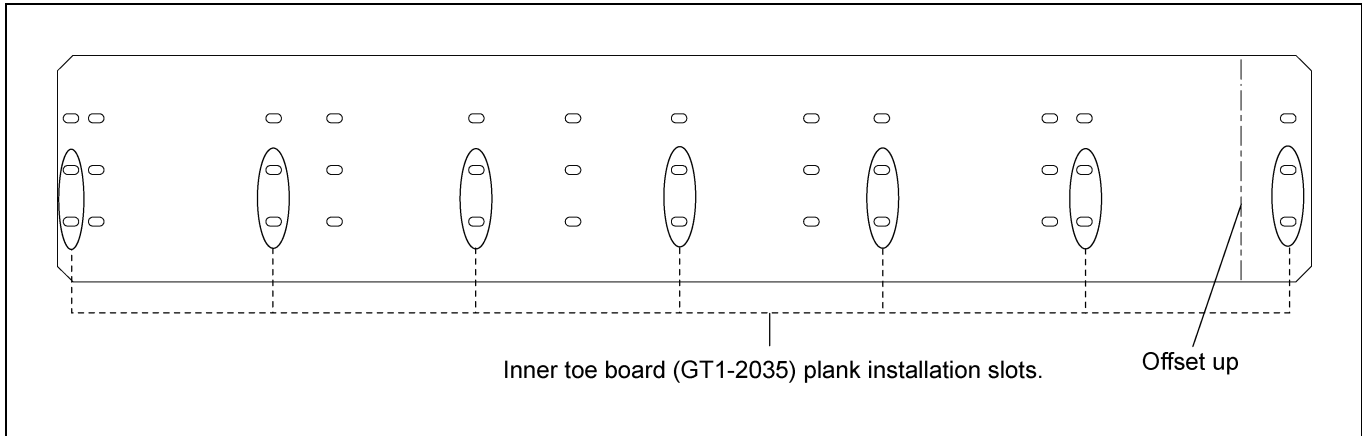

Figure 6N 12' Inner Toe Board (GT1-2035)
2. Inner toe board (GT1-2035) is arranged with many slots to install plank. Install offset and roof hatch planks to corresponding slots as shown in Figure 6N.